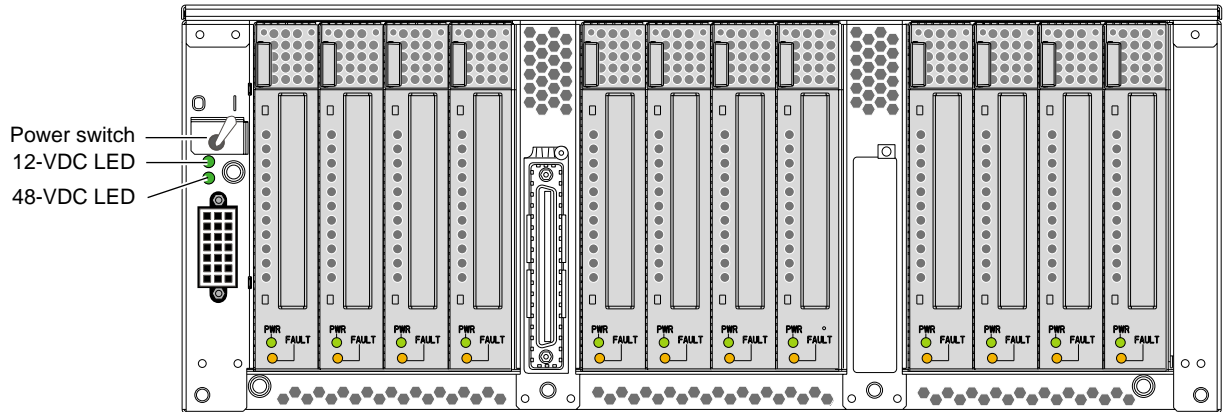

Figure 2-11 Power Switch at Rear of Module
2. Power on the L1 controller by setting the power switch on the rear of the PCI expansion module to the **1** position. See Figure 2-11. The 12-VDC LED, which is located on the rear of the module, illuminates when the L1 controller is powered on.
5. Power off the L1 controller by setting the power switch on the rear of the module to the **0** position. See Figure 2-11 on page 29.
2. Power off the L1 controller by setting the power switch on the rear of the module to the **0** position. See Figure 2-11 on page 29.